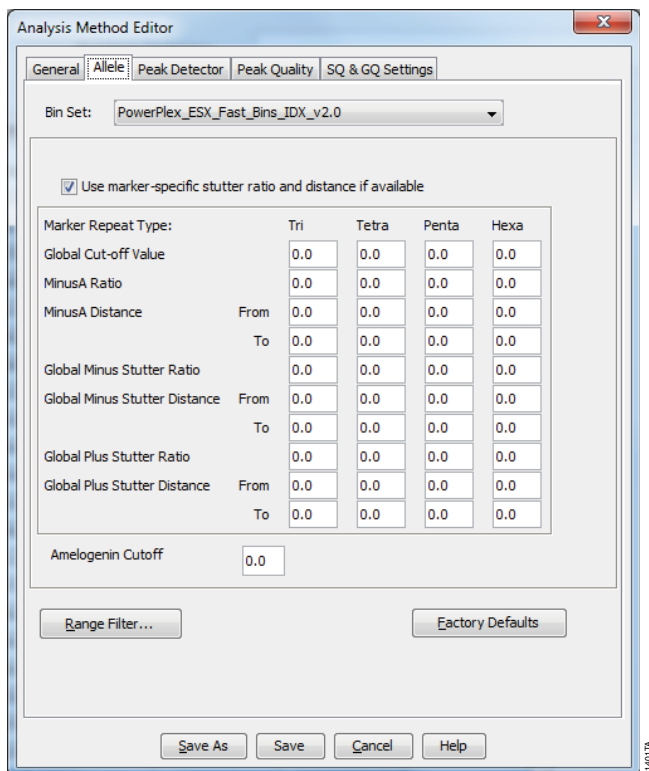

Figure 12. The GeneMapper® ID-X 'Allele' tab.
6. Select the 'Allele' tab (Figure 12).
8. Ensure that the "Use marker-specific stutter ratio and distance if available" box is checked. We recommend the values shown in Figure 12 for proper filtering of stutter peaks when using the PowerPlex® ESX 16 Fast System. You may need to optimize these settings. In-house validation should be performed.